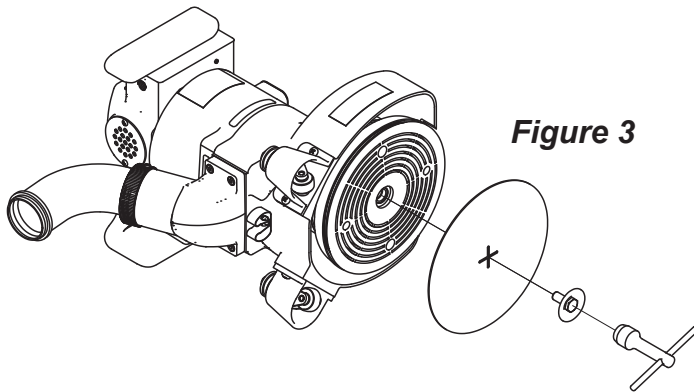

Figure 3
2. Remove screw and abrasive retainer. Center abrasive on pad and secure with abrasive retainer and screw. (Figure 3)